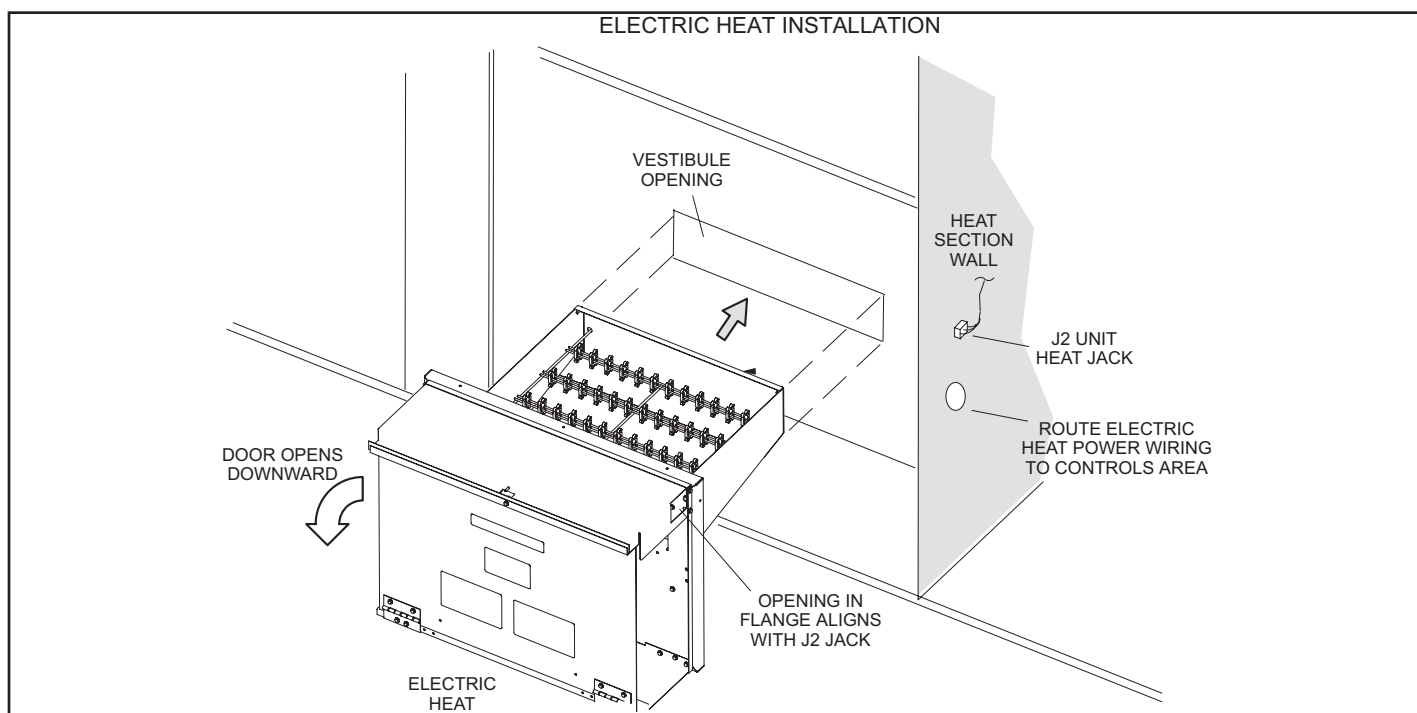

FIGURE 2
- 3 - Disconnect P2 jumper from J2 unit electric heat jack on heat section wall. See FIGURE 2.
- 5 - Install the electric heat assembly in unit as shown in FIGURE 2.
- 7 - Connect P2 from electric heat assembly to J2 in heat section wall. See FIGURE 2.